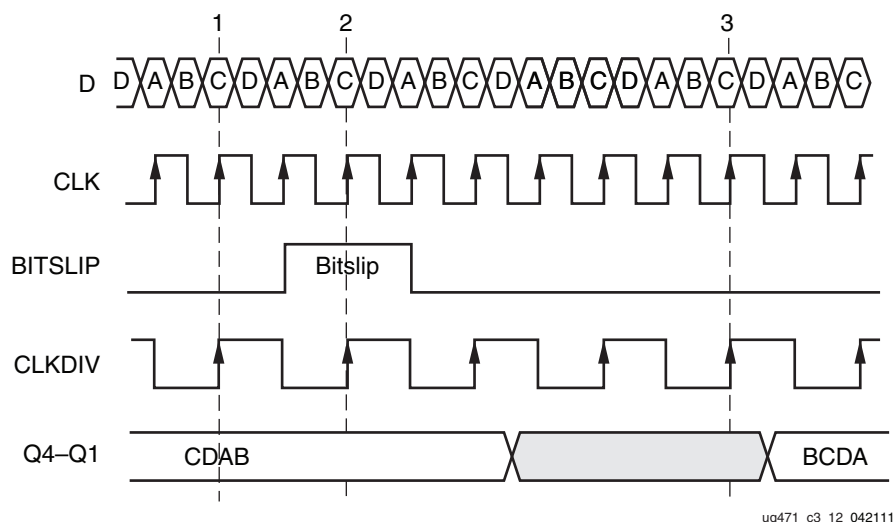

Figure 3-12: DDR Bitslip Functional Diagram
When the ISERDESE2 interface type is MEMORY, the latency through the OCLK stage is one CLKDIV cycle. However, the total latency through the ISERDESE2 depends on the phase relationship between the CLK and the OCLK clock inputs. When the ISERDESE2 interface type is NETWORKING, the latency is two CLKDIV cycles. See Figure 3-12, page 158 for a visualization of latency in networking mode. The extra CLKDIV cycle of latency in networking mode (compared to memory mode) is due to the Bitflip submodule.
This section discusses the timing models associated with the Bitslip controller in a 1:4 DDR configuration. Data (D) is a repeating, 4-bit training pattern ABCD. ABCD could appear at the parallel outputs Q1–Q4 of the ISERDESE2 in four possible ways: ABCD, BCDA, CDAB, and DABC. Only one of these four alignments of the parallel word makes sense to the user's downstream logic that reads the data from the Q1–Q4 outputs of the ISERDESE2. In this case, ABCD is assumed to be the word alignment that makes sense. Asserting Bitslip allows the user to see all possible configurations of the input data and then choose the required alignment (ABCD). Figure 3-12 shows the timing of a Bitslip operation and the corresponding re-alignments of the ISERDESE2 parallel outputs Q1–Q4.